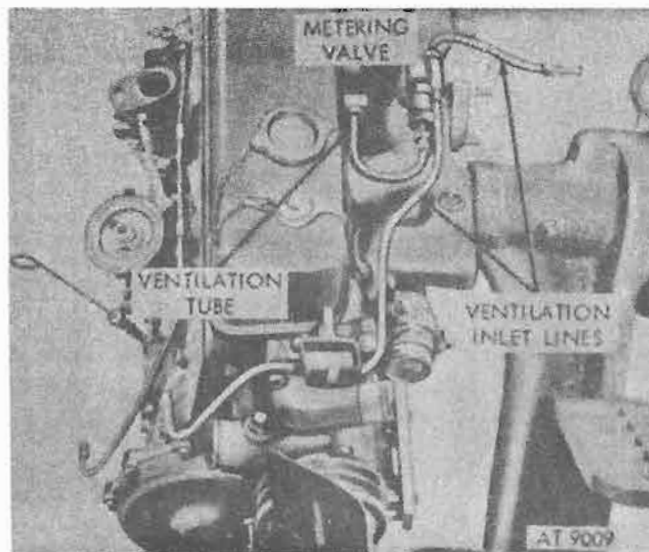

Figure 4-63. Crankcase ventilation lines (M151, M151A1, M151A1C and M718 vehicles).
e. Crankcase Ventilation Lines—M151, M151A1, M151A1C and M718. Disconnect and remove crankcase ventilation tube assembly from elbow at rocker arm cover and from nut at metering valve assembly. Disconnect and remove crankcase ventilation lines from fitting at intake manifold and crankcase ventilation line from connector at cylinder block. Refer to figure 4-63.